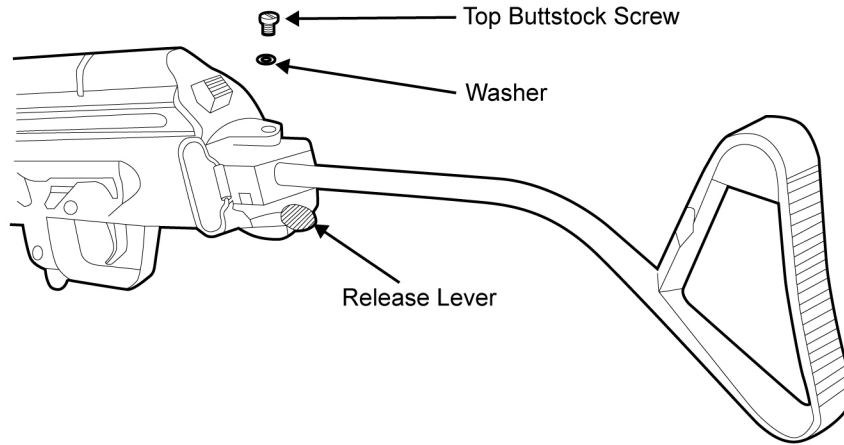

Figure 57. Installing the Washer and Top Buttstock Screw.
- g. Install the washer and top buttstock screw. Restake the bottom of the top buttstock screw, twice. Refer to Figure 57.